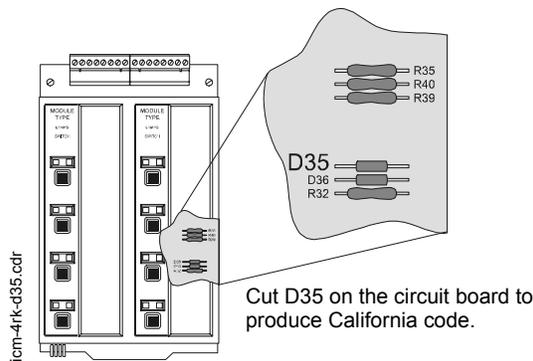

Figure 3.13 Location of D35 on ICM-4RK Circuit Board
9. The ICM-4RK is California Code programmable (microprocessor P/N 34077 Rev. B or higher). To program for California Code, cut diode D35 as shown in Figure 3.13.